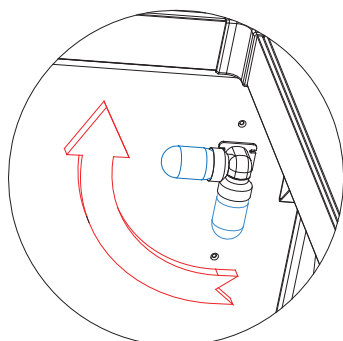

Fig 9-32
3. Turn the socket about 90 degrees. (Fig 9-32)